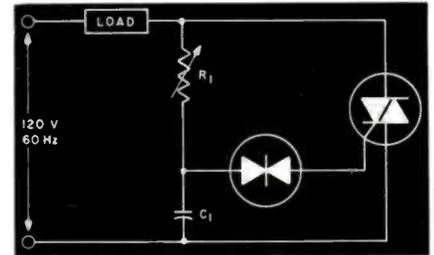
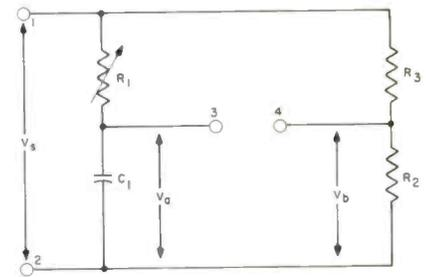
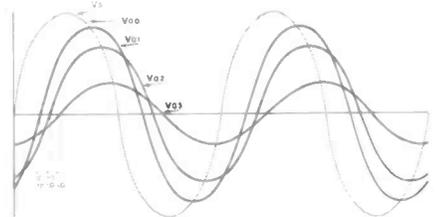

Fig. 11 — A solid-state circuit for controlling the ac current applied to a load.
Fig. 12 — The basic capacitor-time-constant circuit in an ac current regulator.
Fig. 13 — The relationship between the supply voltage ( $V_s$ ) and capacitor voltage ( $V_i$ ) varies with changes in the series resistance.
Solid-state ac current regulators have eliminated these problems. They control the amount of power applied to an ac circuit (motors, lamps, heaters, etc.) with the use of switching diodes, which regulate the average ac current applied. One such ac current regulating circuit is shown in Fig. 11.
The average ac current flowing through this circuit is controlled through the use of capacitor time constants. (Capacitor time constants are described in the September 1967 article of this series.) The application of these time constants can be more readily understood with the use of a simplified diagram (Fig. 12) showing a portion of the power regulating circuit.
When terminal 1 is more positive than terminal 2 (Fig. 12), electrons flow from one plate of the capacitor ( $C_1$ ) through the variable resistor ( $R_1$ ) and to the positive terminal (1). The rate of electron flow (amount of current) through the resistor ( $R_1$ ) determines the rate that a voltage is developed across the capacitor. Since the resistor ( $R_1$ ) restricts the amount of current into or out of the capacitor ( $C_1$ ), it ( $R_1$ ) can be varied to change the rate at which a voltage will be developed across the capacitor. After a sufficient period of time, the voltage across the capacitor ( $V_a$ ) will equal the applied ac voltage ( $V_s$ ).
curve would then be the same as the  $V_s$  curve in Fig. 13.)
When there is some resistance between the applied ac voltage and the capacitor ( $C_1$ ), the resistor ( $R_1$ ) restricts the current to the capacitor (Fig. 12), and the voltage across the capacitor ( $V_a$  in Fig. 13) does not increase as rapidly as the applied ac voltage ( $V_s$ ). The applied ac voltage has already passed its peak by the time the capacitor voltage ( $V_{a1}$ ) has reached its peak — the instant the two voltages are equal.
Triacs were described in the July 1968 article of this series. From their equivalent circuit, shown in Fig. 12 of that article, we can see that any voltage at the gate, resulting from leakage current, is not as great as the voltage applied across a triac. Two equal resistors can be used as a voltage divider to supply a voltage corresponding to the voltage present at the gate of some triacs. (Voltage dividers are described with Fig. 3 in the April 1968 article of this series.) To simplify our explanation of how the thyrector functions in the ac current regulating circuit (Fig. 11), voltage divider resistors ( $R_2$  and  $R_3$ ) were substituted for the triac (Fig. 12). These resistors, of course, do not function like a triac, but do supply